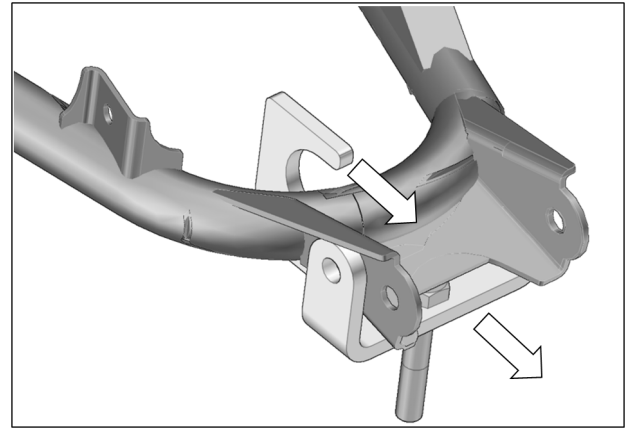

Fig. 8
7. Make sure that the hook at the back of the bracket is correctly positioned on the lower a-arm tube. See Fig. 8